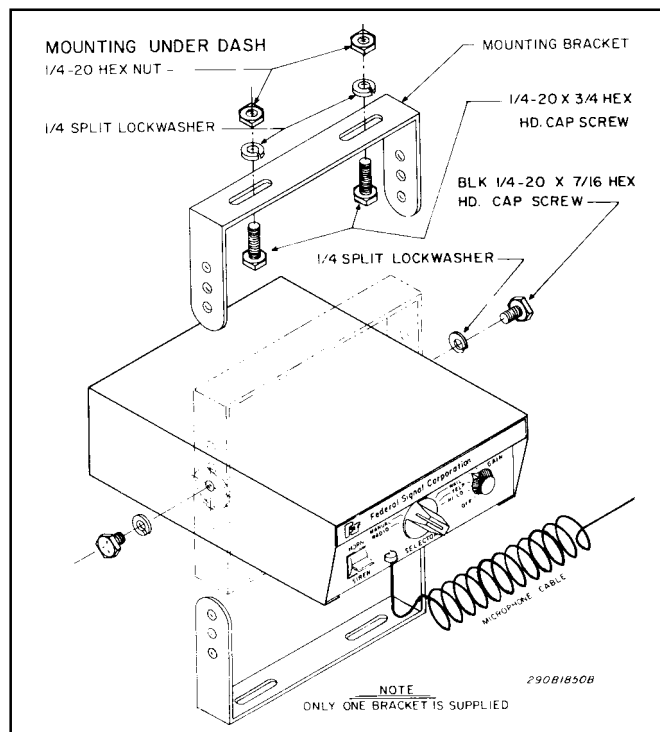

Figure 3-1. installation of PA300 Under Dash.
The unit should be mounted in a position that is both comfortable and convenient to the operator. Keep visibility and accessibility of controls in mind. To install the unit under the dash, determine the mounting location and proceed as follows (see figure 3-1).
C. Secure the mounting bracket to the dash with (2 each) 1/4-20 x 3/4 hex head screws, 1/4 split lockwashers and 1/4-20 hex nuts as shown in figure 3-1.